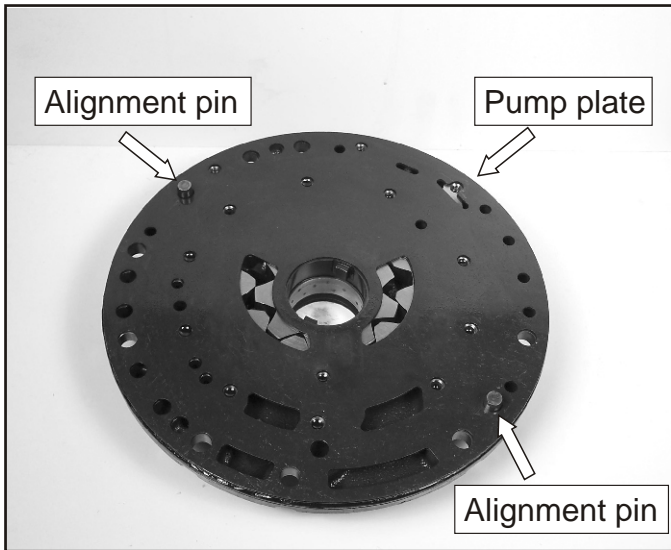

Figure 114
- 62. Assemble the pump plate on over the two alignment pins shown in Figure 114.